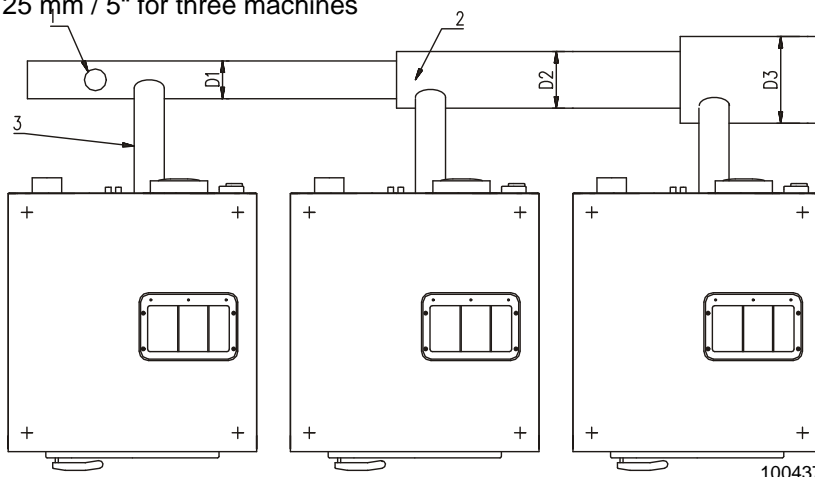

Fig.9 Recommended drain pipe diameters
The main drain channel-pipe must have the capacity to be able to handle the total output of all connected machines. In a drainpipe, a deodorizer must be provided every twenty meter, fig.9., pos.1 to assure the good working of the drain pipe. If the main drain pipe cannot be sufficiently deodorized, install a deodorizer per machine. Every time a machine is coupled on the drainpipe, the diameter of the tube or the width of the waste channel must be more. See, fig.9., D1, D2, D3.